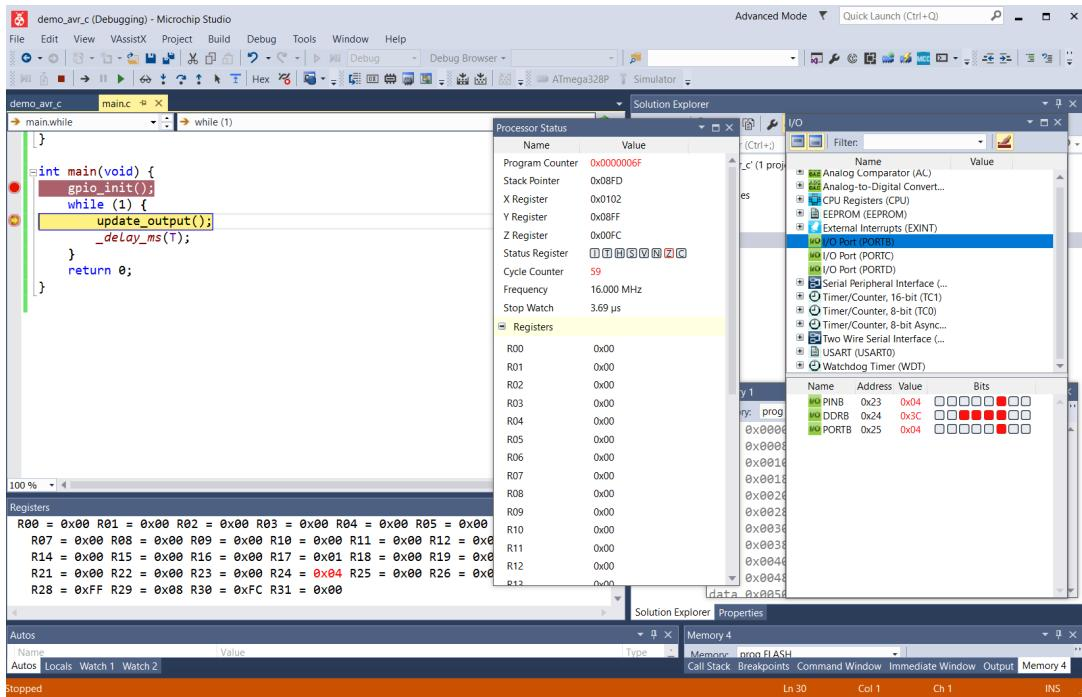

Figure 1: Code Debugging using the built-in AVR simulator
3.5 Step through the code repeatedly until the next breakpoint is reached (see **Figures 1 and 2**).